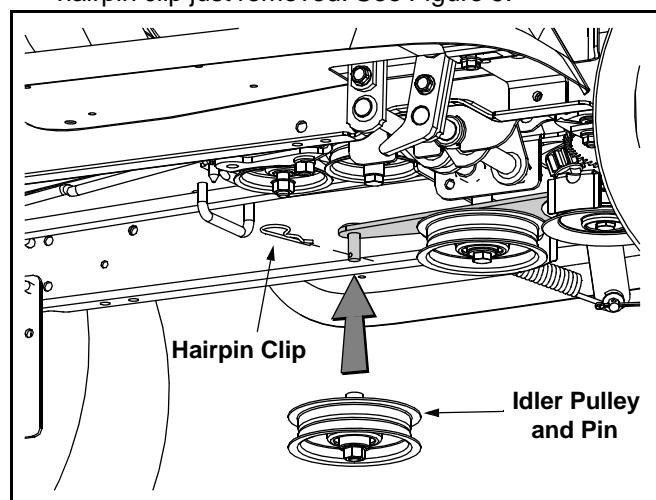

Figure 9
- Position the idler pulley and pin onto the weld pin of the PTO engagement plate and secure with the hairpin clip just removed. See Figure 9.